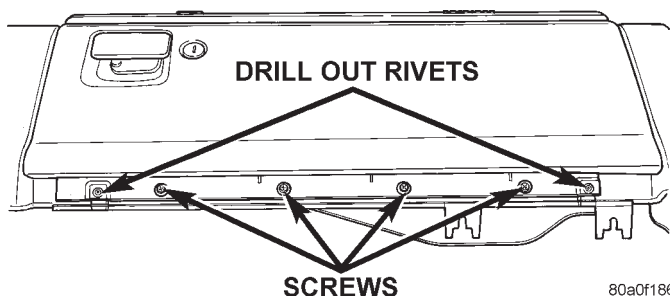

Fig. 17 Glove Box Remove/Install
(1) Disconnect and isolate the battery negative cable.
(2) Drill out the two rivets that secure the glove box hinge to the lower edge of the glove box module (Fig. 17).